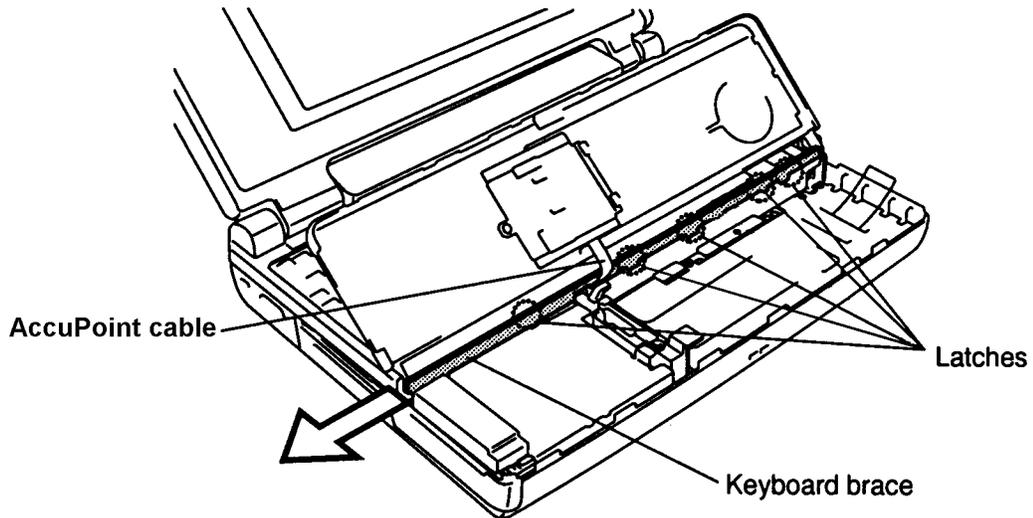

Figure 4-10 Removing the keyboard base
To remove the keyboard, follow the steps below and refer to Figures 4-10 and 4-11.
To install the keyboard, follow the steps below and refer to Figures 4-10 and 4-11.
3. Insert the **keyboard brace** between the **AccuPoint cable** and under side of the keyboard (Figure 4-10).
4. Secure the **five latches** on the keyboard base (Figure 4-10).